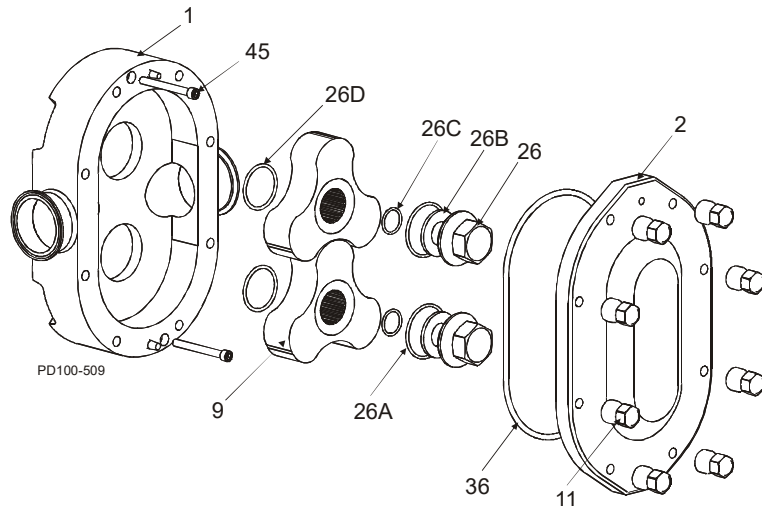

Figure 30 - Exploded View of Fluid Head
Table 3: Callouts for Figure 30
1. Remove the cover nuts (Figure 30, item 11) from the cover (item 1).
2. Using a soft hammer, tap the cover (Figure 30, item 2) off the body studs and dowel pins.
4. Remove and inspect the cover O-ring (Figure 30, item 36).